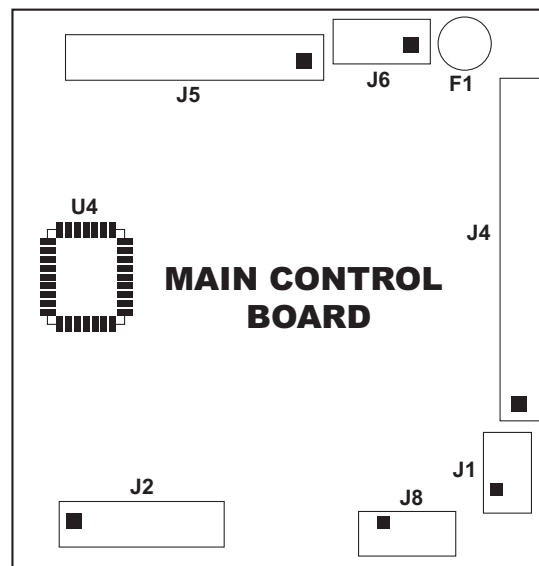

FIG. 2
4. To completely remove user interface (C), disconnect ground wire (G), and wires from J1 and J2 on main control board (E). See FIG. 2.